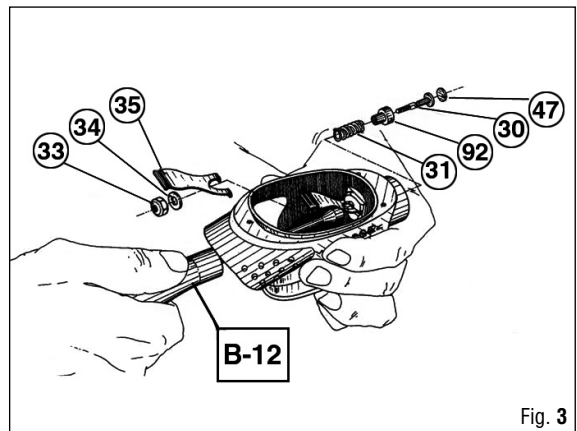

Fig. 3
14. Remove the exhaust valve (40) and the O-ring (143) from the exhaust valve holder (144).
15. Use the special wrench (B-12) to unscrew the demand lever nut (33), removing the demand lever (35), the washer (34), the valve (30), and the spring (31) (Fig. 3).